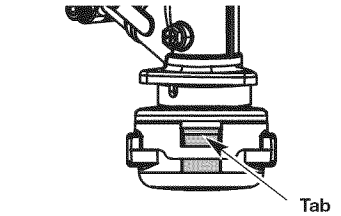

Fig. 14
3. Hold the cutting head knob and turn the cutting head clockwise to wind the line around the inner reel until 5 in. (12.7 cm) is protruding from each side of the cutting head. (Fig. 14)